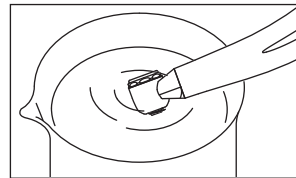

Fig. 3
- 3) Rotate the handpiece and immerse half of the handpiece head. (Fig. 3)